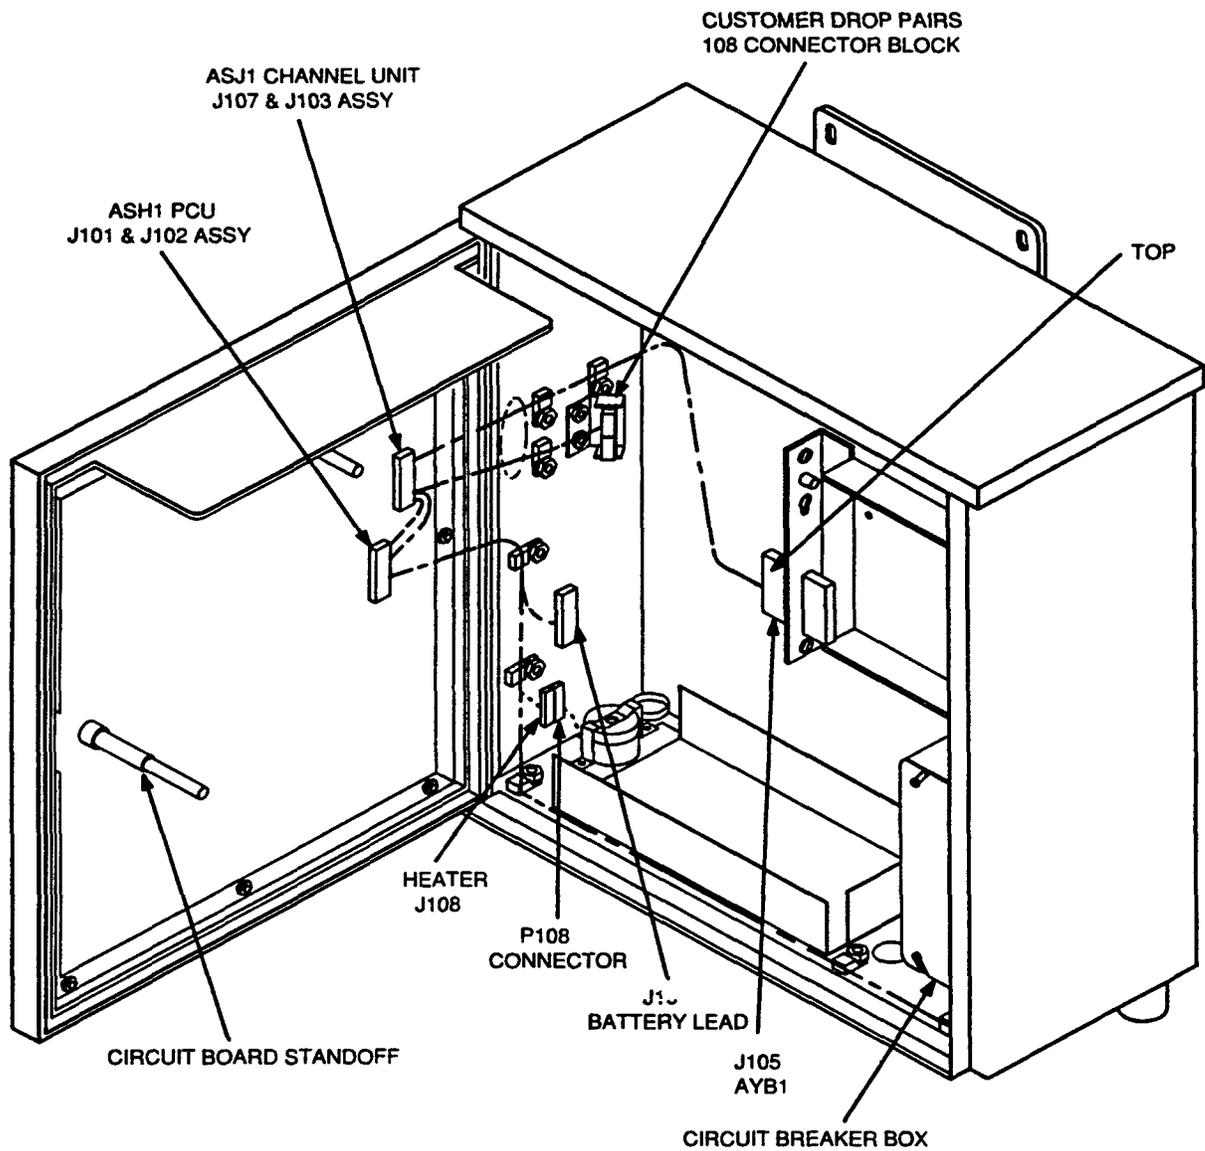

Figure 1—DT Circuit Pack Wiring Diagram
1. See FIG 1. Turn off AC or DC power circuit breaker and unplug J104-P104 battery power cable connection.